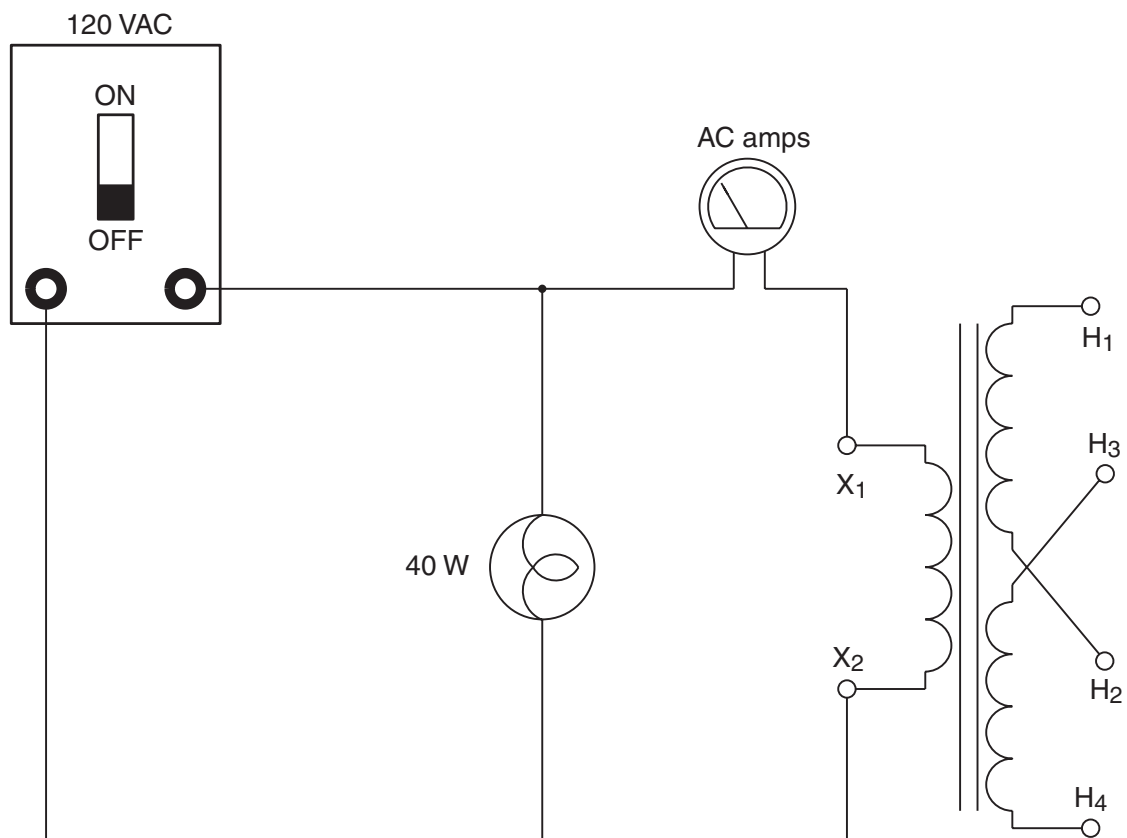

Figure 12-6 Measuring current through the inductive load.
7. Connect the AC ammeter in series with the inductor as shown in Figure 12-6.